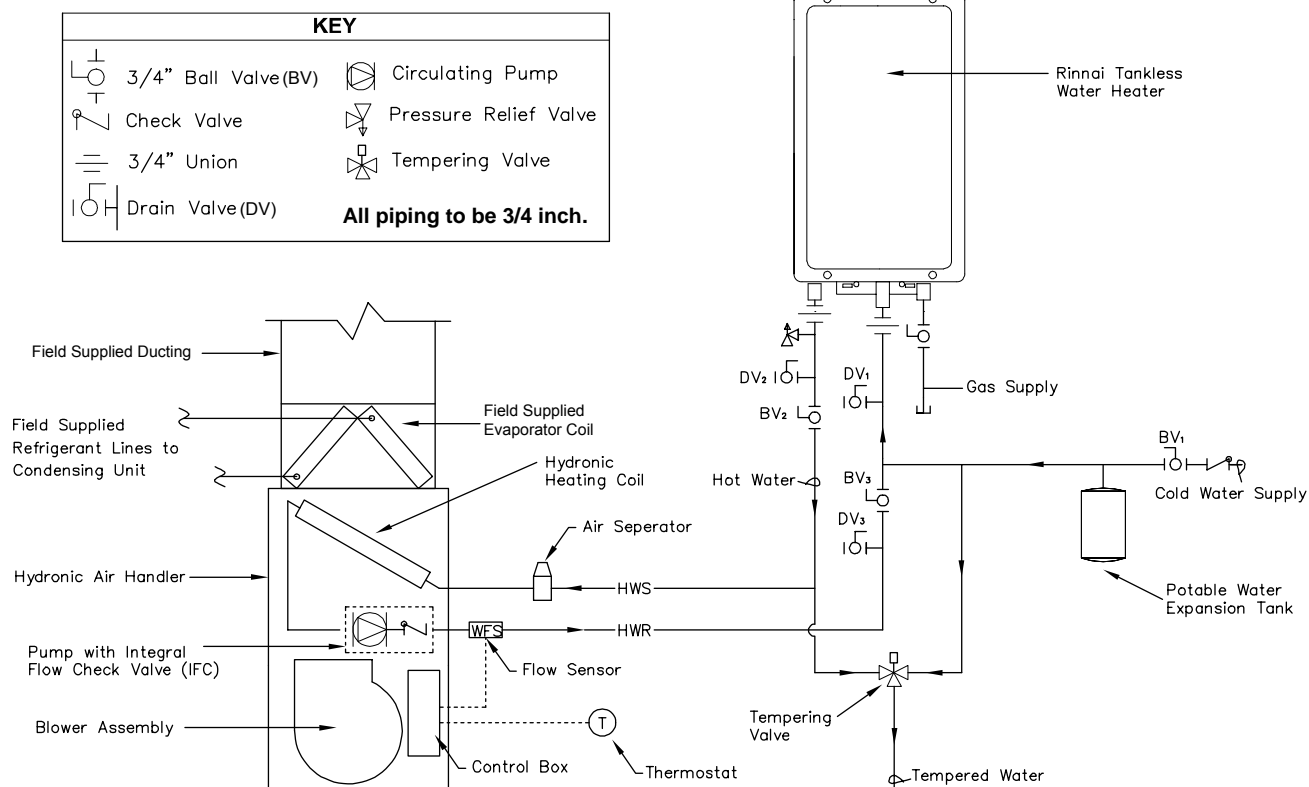

Figure 11 - Typical Piping Arrangement For Direct Space Heating and Domestic Water Supply with Tankless Water Heater. Open Loop
If piping is done in accordance with the recommended schematic diagram shown in Figure 11, the following purge and priming procedure applies.
- For proper operation of an open loop system with the flow sensor refer to Figures 11 and 14; Note that the jumper (shunt) position on the PCB "point P7" MUST be in the FS position.